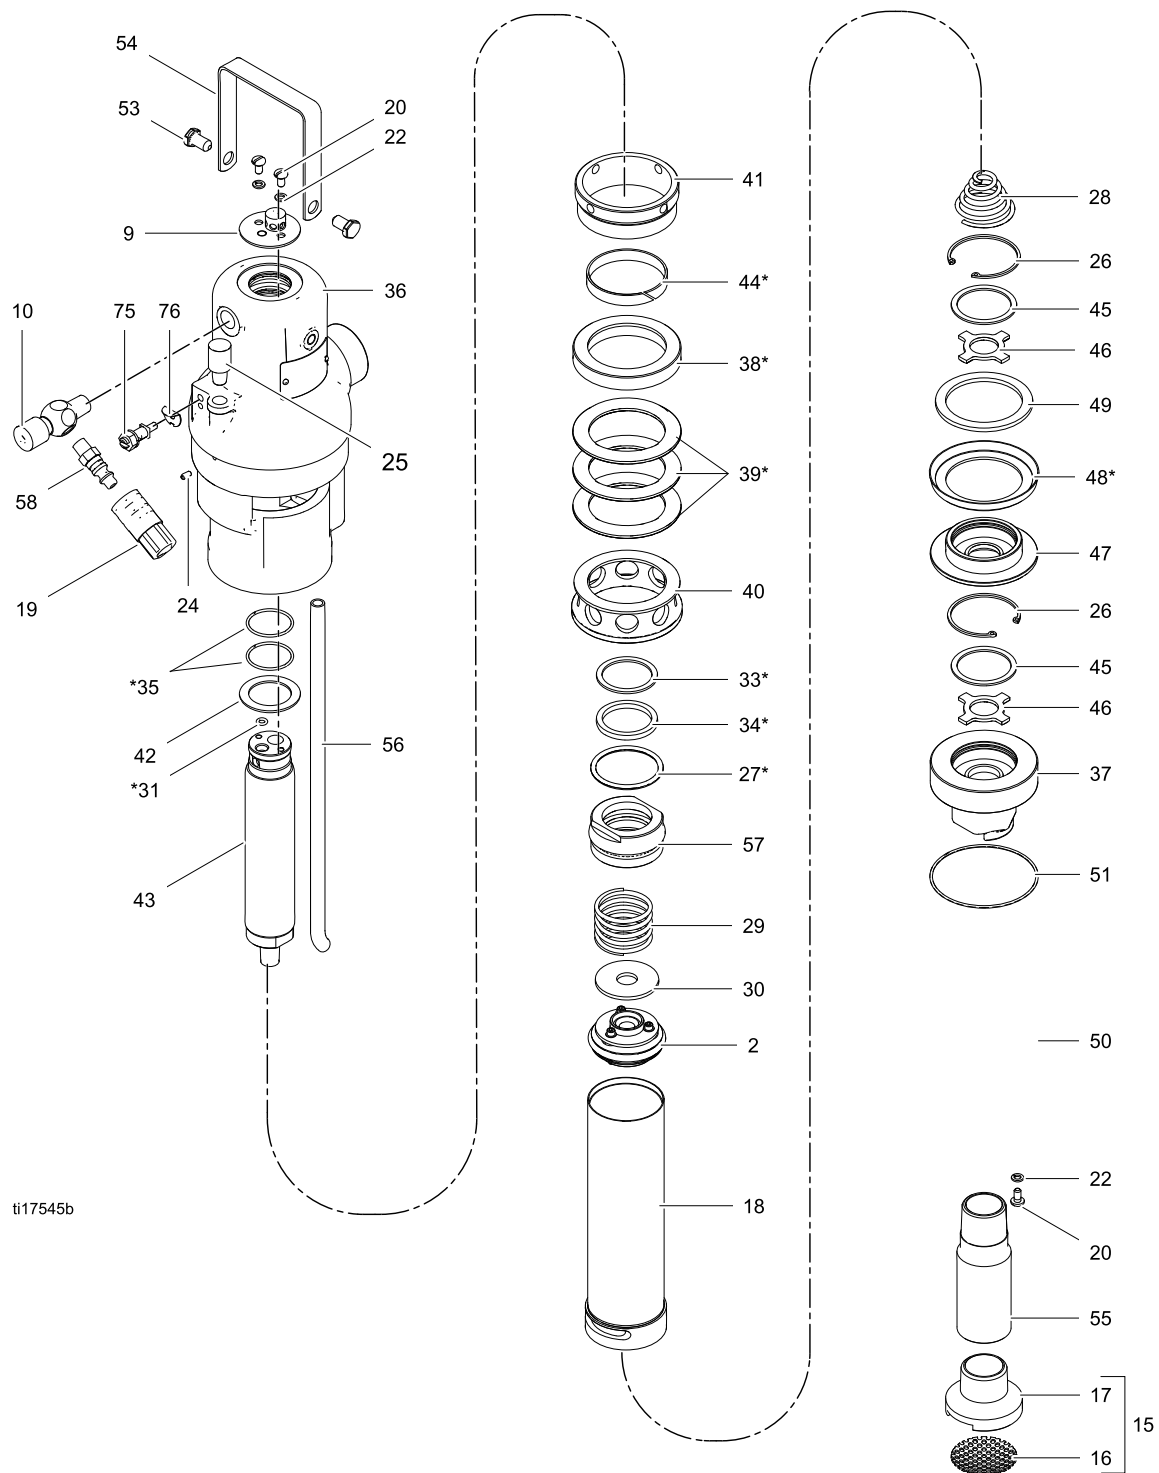

Figure 7 Pump Repair
2. Clamp the pump head (36) in a vise. Unscrew the bypass tube (56). Unscrew the fluid intake strainer assembly (15) and the extension tube (55) if used from the intake housing (37). Remove the screen (16) from the strainer housing (17) and clean. See Fig. 7 on page 17.
3. Use a wrench on the intake valve housing (37) to unscrew the fluid cylinder (50) from the pump head (36). Do not use a wrench on the cylinder, as damage will result. Pull the cylinder straight off to avoid scratching the inner surface.
4. Remove the four screws (20) and washers (22) from the bottom of the cylinder (50). Push the intake valve housing (37) up and out of the cylinder, being careful not to scratch the inner cylinder surface. Inspect the o-ring (51) at the bottom of the cylinder.
5. Remove the retaining ring (26), stop ring (45), and valve plate (46) from the intake valve housing (37). The valve plate and stop ring may be inverted during reassembly if they are worn.
6. Insert a metal rod 1/4 in. (6 mm) in diameter in the slots at the base of the displacement rod (18), to keep it from turning. Use a wrench to screw the piston (47) out of the rod (18).
7. Remove the packing retainer ring (49) and cup packing (48) from the piston body (47). Also remove the retaining ring (26), stop ring (45), and valve plate (46). The valve plate and stop ring may be inverted during reassembly if they are worn.
8. Remove the two screws (20) and washers (22) holding the air cap (9) to the piston rod (43). Inspect the o-rings (31, 35) under the air cap. Insert a 1/4 in. (6 mm) diameter metal rod into one of the holes in the packing nut/wet-cup (41) and loosen it. Pull the displacement rod (18) and piston rod (43) out the bottom of the pump head (36). The spacer washer (42) will come out with the piston rod.
9. Remove the packings (39), glands (38, 40), and bearing (44) from the pump throat. Clean and inspect all parts.
10. Unscrew the displacement rod cap (57) from the displacement rod (18). Pull the piston rod (43) out the top of the displacement rod (18).
11. See Fig. 7. Use wrenches on the flats of the piston rod (43) and the air valve and piston assembly (2) to unscrew the piston from the rod. Remove the washer (30), spring (29), and rod cap (57) from the piston rod (43). Remove the o-ring (27), v-packing (34), and backup (33) from the displacement rod cap (57).